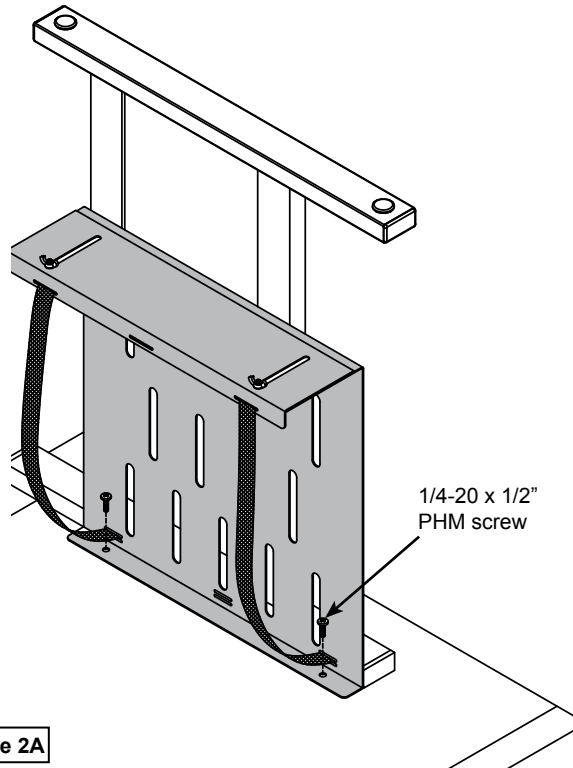

Figure 2A
1. Determine whether the CPU sling will mount on the right or left side of the desk and align the top sling holes with the appropriate set of inserts. **Figure 2A** shows a sling being mounted on the left side of a desk.
Note: Desks without support brace **Figure 2A** use two 1/4-20 x 1/2" PHM screws (026017.)